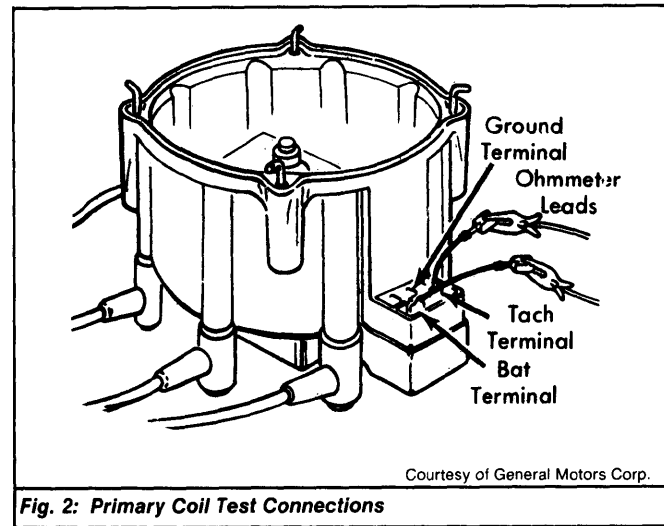

Fig. 2: Primary Coil Test Connections
2) To test ignition coil, remove distributor cap and wires as an assembly. Connect one ohmmeter lead to "Tach" terminal and other lead to "Bat" terminal. See Fig. 2.